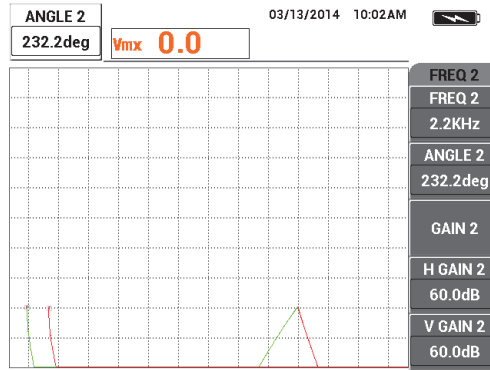

Figure 5-119 Adjusting the ANGLE 2 value
- 6. While holding the probe in place, press the ANGLE key () again, and then adjust the ANGLE 2 so that it is also as horizontal as possible (see Figure 5-119 on page 212).